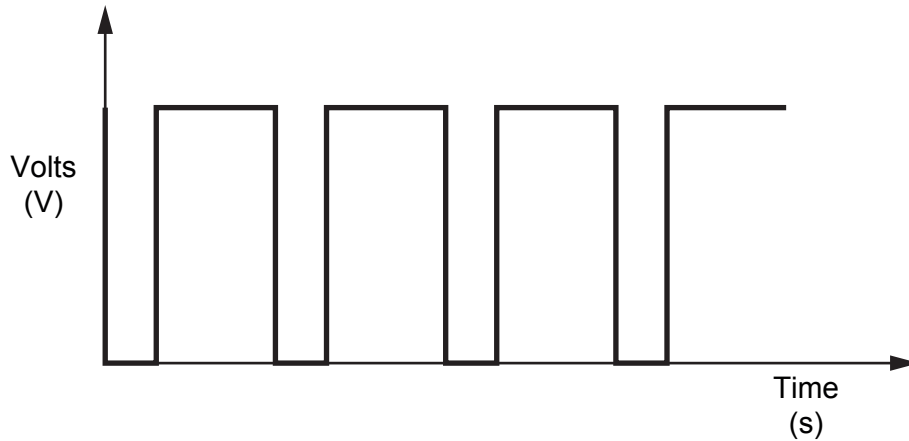

Fig. 11.6
- (d) A toy truck has two LEDs that flash on and off continuously when a switch is pressed. The output signal to the LEDs is shown in Fig. 11.6.
- (i) Circle the type of circuit from the list below that could give the output signal shown in Fig. 11.6.